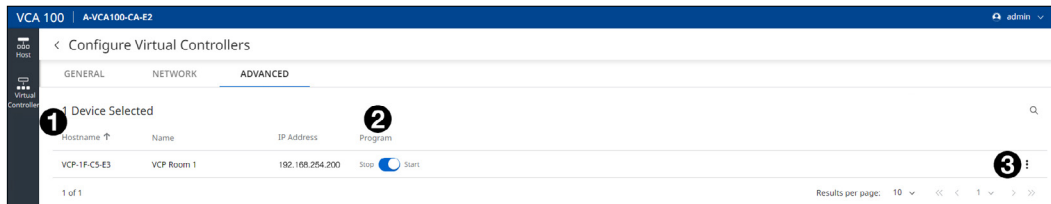

Figure 32. Configure Virtual Controllers Advanced Tab
The **ADVANCED** tab allows you to recover projects, start programs and reset the VCP settings to factory defaults. If you have more than one device, you can sort them by Hostname in ascending or descending alphanumeric order by clicking on the Hostname column heading (see figure 32, ❶).